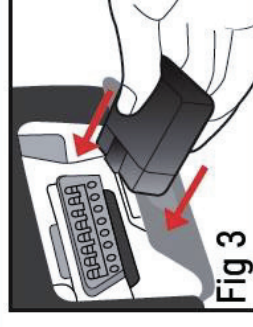

Fig 3
- 3** Plug your Micro Mechanic™ into the OBDII port. Push in until secure. (See Fig 3)